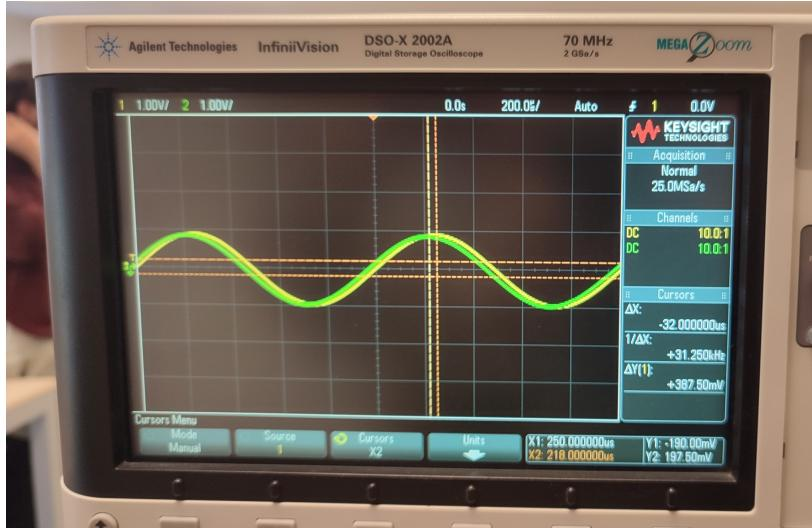

FIG. 12. $\Delta\Phi = 0.201\text{rad}$ at 1 kHz
I applied 1kHz frequency, $2 V_{pp}$ value sine wave then increased the frequency to 100kHz. With the help of the cursors I measured the ΔX of the peaks for the signal 32 μs at 1kHz and 60 ns at 100 kHz. At 1 kHz I observed the phase difference ($\Delta\Phi$) to be at 0.201 radians whereas at 100 kHz $\Delta\Phi = 0.038$ radians. The reason between the phase differences at different frequencies (FIG. 12 and 13) be explained by the impedance value of the circuit. From eq. (1) we can observe that the relation between frequency and impedance is inversely proportional.